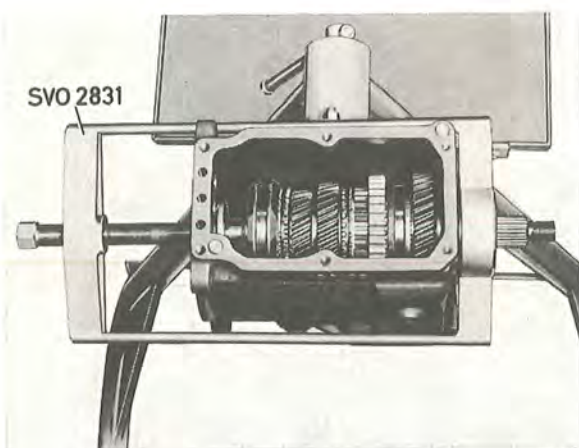

Fig. 4-29. Fitting the mainshaft rear bearing
4. Fit the rear ball bearing on to the mainshaft. Fit press tool SVO 2831 over the bearing and the mainshaft as shown in Fig. 4-29. Press the bearing on to the shaft. If the bearing does not locate in the housing, the spindle on tool SVO 2831 can be screwed out and a flat iron piece placed between this and the front end of the housing. The bearing can then be pressed into position with the tool.